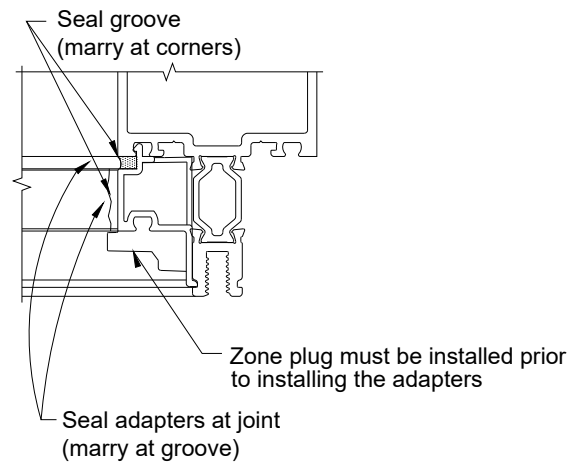

Figure 58: Sealing Glazing Adapters (Vertical Shown; Horizontal Similar)
18.4 Install horizontal adapters maintaining an equal gap at each end. Once all adapters have been installed in the opening, seal all joints between Vertical and Horizontal adapters. Run a bead of sealant in the groove formed between the adapter and Mullion. This seal must be continuous around opening and must marry with the seal at Horizontal to Vertical adapter joints. See *Figure 58*.